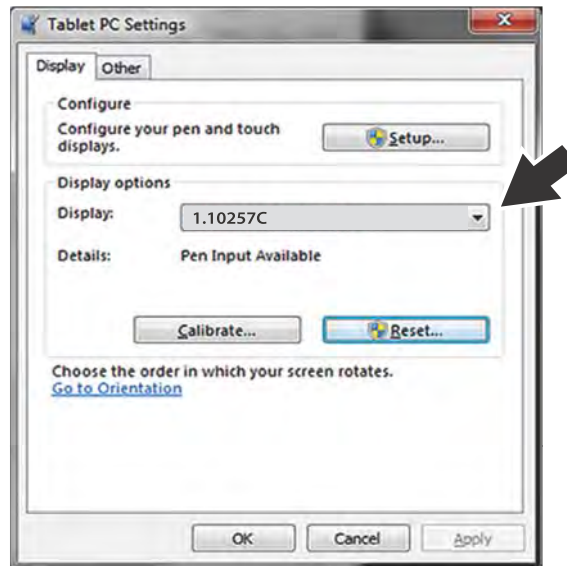

Figure 16-3 Typical - Tablet PC Settings window
The Tablet PC Setting window is displayed (Figure 16-3).
2. Select the diagnostic tool display from the dropdown list. The current default diagnostic tool display number “1.10257C” is shown in (Figure 16-3), as an example.